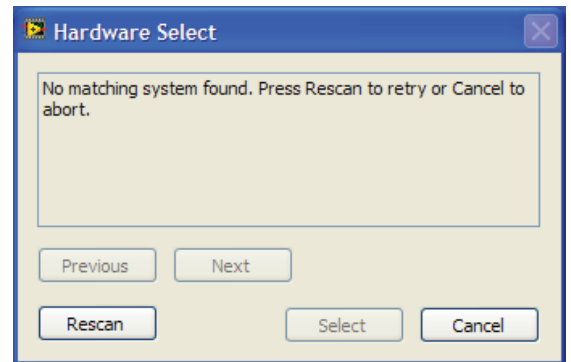

Figure 8. Pop-Up Window Error
2. If the SDP board is not connected to the USB port when the software is launched, a connectivity error displays (see Figure 8). Simply connect the evaluation board to the USB port of the PC, wait a few seconds, click **Rescan**, and follow the instructions.